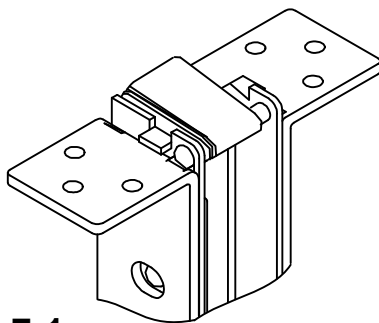
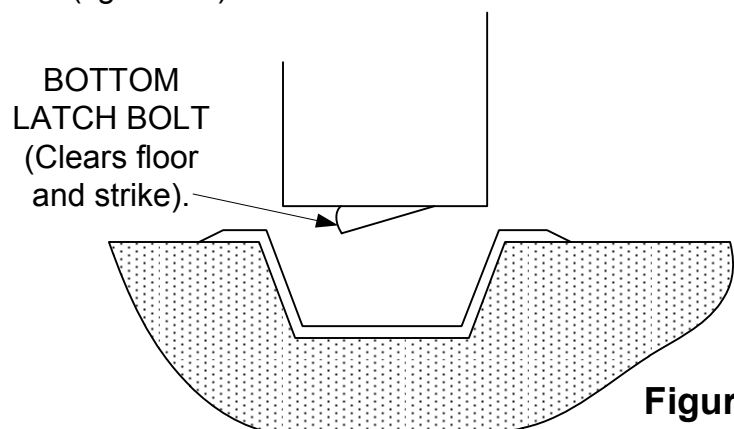

Figure 7-1
Figure 7-2
1. Depress push bar. Top latch bolt should be retracted as shown (figure 7-1) and bottom latch clears floor and bottom strike (figure 7-2).